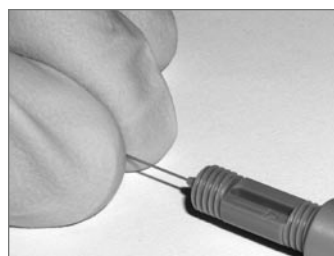

FIGURE 2
- 2) Using fused silica tubing, push the column out of the sleeve (Figure 2)